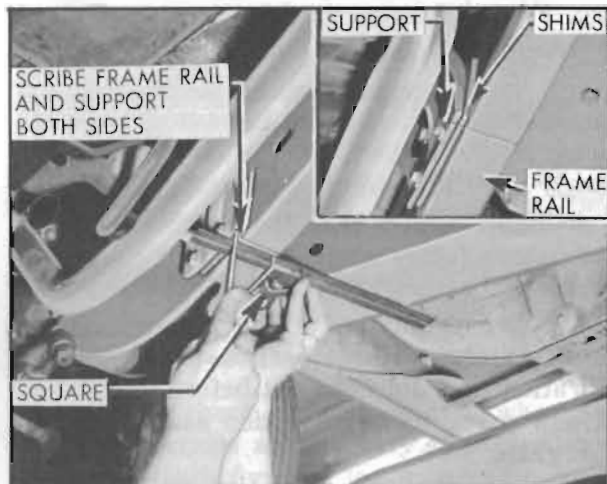

Figure 2-42—Marking Frame Rail And Support
4. Mount Dial Indicator KMO-30-B with Sleeve KMO-30-K and clamp KMO-30-G as shown in figure 2-42, so that stem of indicator bears against the flat surface of flywheel at inner side of the bolt holes.